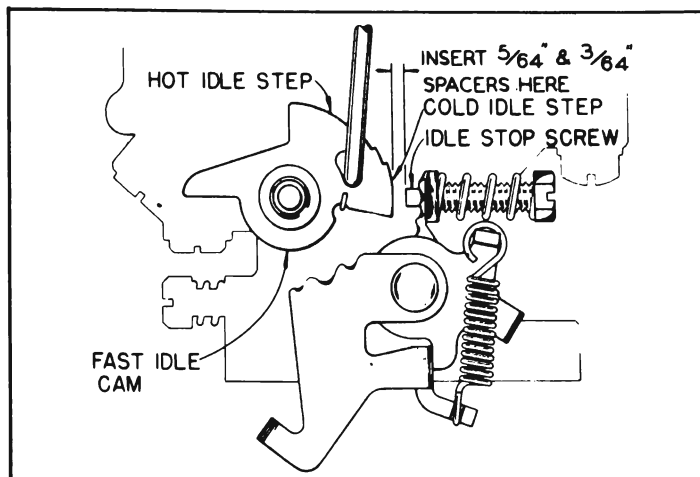

Figure 10-34—Spacer Between Idle Stop Screw and Fast Idle Cam
4. Place $\frac{5}{64}$ " spacer between idle stop screw and fast idle cam while holding fast idle cam in extreme cold idle position. Close throttle so that spacer will hold cam in this position. See figure 10-34. Turn ignition on, hold spacer and open throttle. *Engine should not crank.*
5. Still holding throttle open, place $\frac{3}{64}$ " spacer between idle stop screw and fast idle cam while holding fast idle cam in extreme cold idle position. Close throttle so that spacer will hold cam in this position (fig. 10-34) and again open throttle with ignition on. *Engine should crank.*